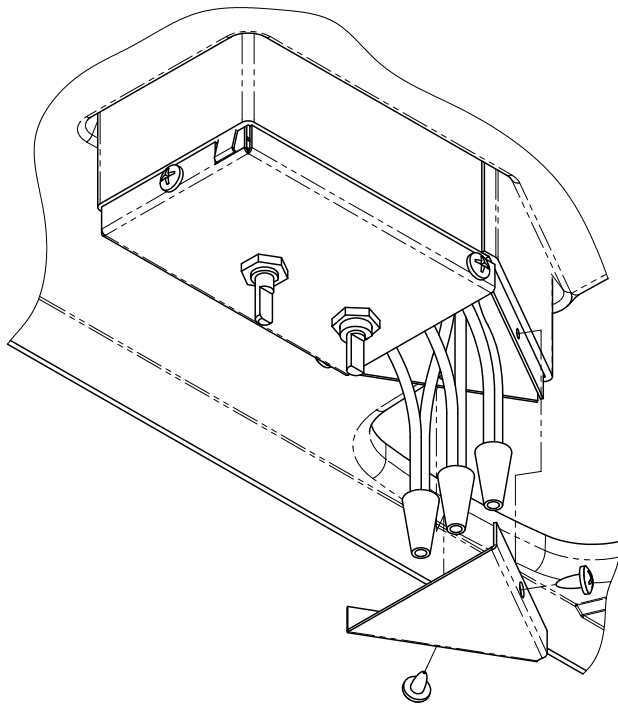

FIGURE 11
- D. Connect the supply power black conductor to the black pigtail wire, the white conductor to the white pigtail wire and the supply ground conductor to the green pigtail wire found in the wiring box using the 3 provided wire nuts. Using a U.L. approved electrical tape, secure the wire nuts in a workmanlike manner (See Figure 11).
- E. Press supply conductors and wire nuts into wiring box and making sure no wires are pinched, secure the wire box cover with 2 provided screws (See Figure 11).